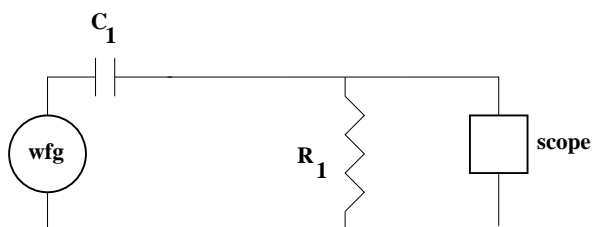

Figure 3: Circuit to generate sharp pulses.
2. The wfg is not quite fast enough to produce pulses short enough for our purposes. We will have to help it using a familiar trick of the trade. The “trick” in this case is simply to differentiate the signal by building a simple  $RC$  circuit. See figure 3. You will make the simple  $RC$  differentiator by soldering together a capacitor and a resistor. ( $R_1 = 47\ \Omega$  and  $C_1 = 100\ \text{pF}$ .) The instructor will help you with the soldering. Insert the differentiator into the output circuit of the wfg.